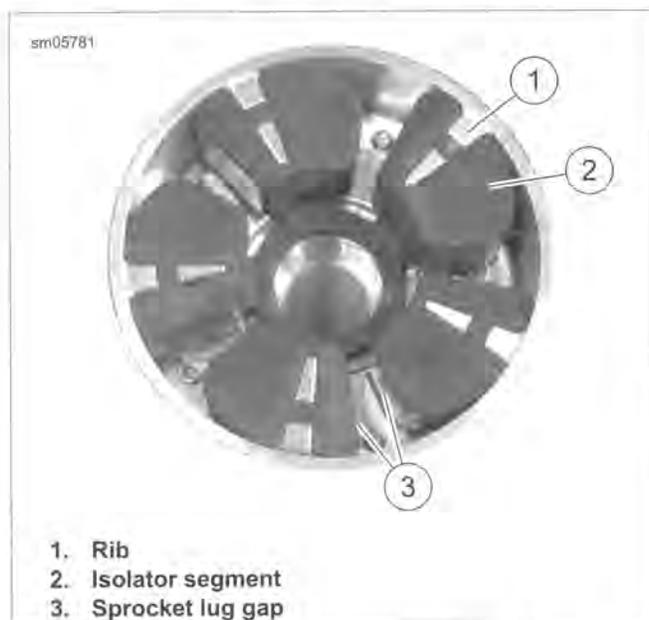

Figure 2-9. Install Isolator in Wheel
1. See Figure 2-9. Lubricate each segment (2) of **new** isolator with 50/50 mix of isopropyl alcohol and water. Do not use a petroleum based lubricant.
2. Push isolator into wheel. Verify that each isolator segment bottoms in bowl and are flush against side walls of ribs (1).
3. Lubricate sides of each isolator segment gap (3) with isopropyl alcohol/water mix.